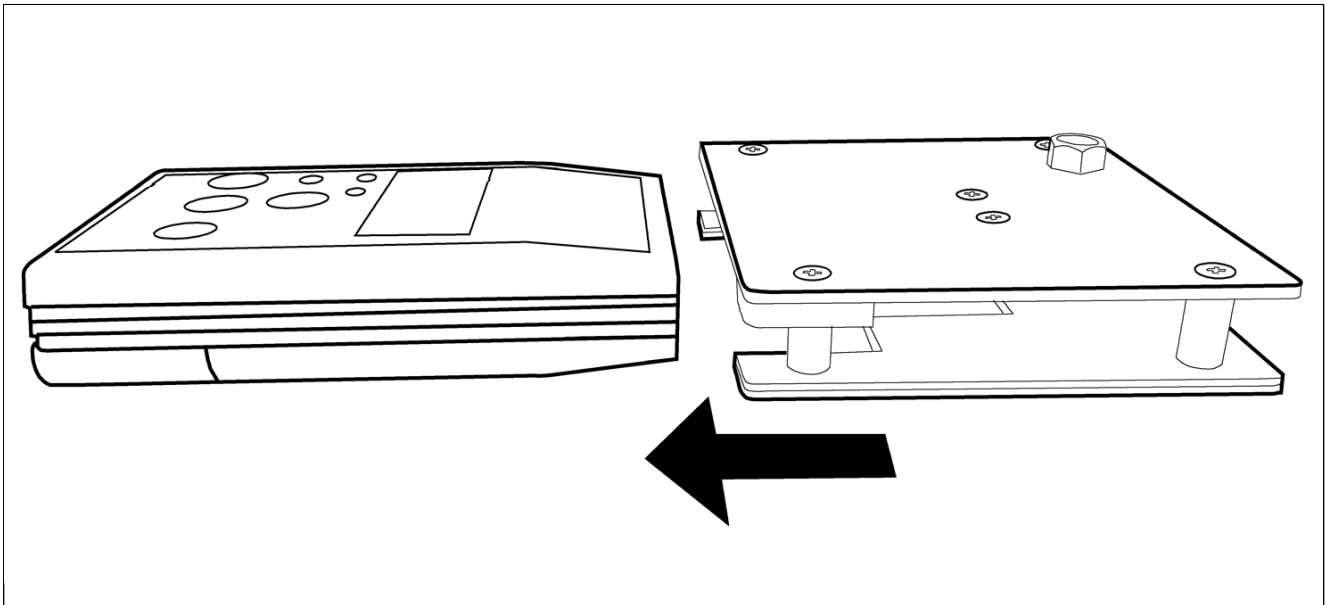

Figure 4. Sliding the CPM-720B onto the PFM-711B
5. With the PFM-711B Field Meter controls and the CPM-720B sensing plate facing up (the lower plate has a cutout for the meter), carefully slide the CPM-720B's lower ground plate into the lower mounting grooves molded into the sides of the PFM-711B's case (Figure 4).